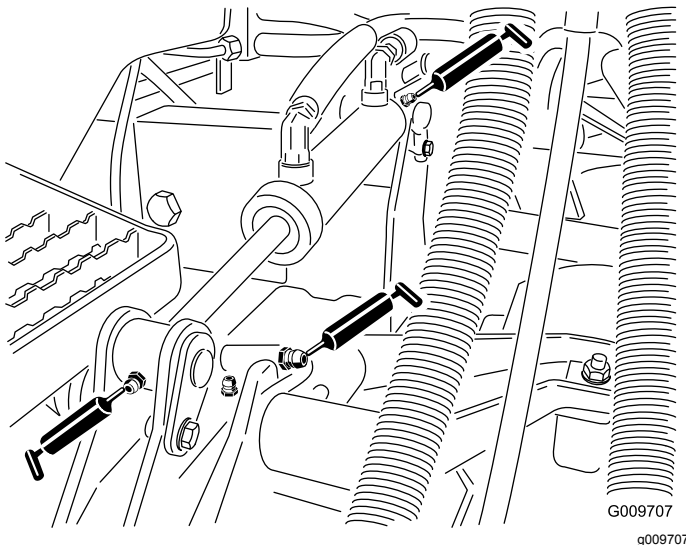

Figure 24
- Lift arm bushings (1 per deck) (Figure 24)
- Lift cylinder bushings (2 per deck) (Figure 24)